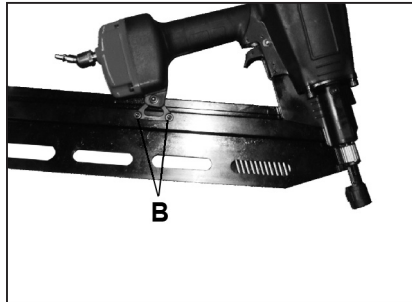

Figure 9
- 2) Remove two nuts (B) Fig. 9.